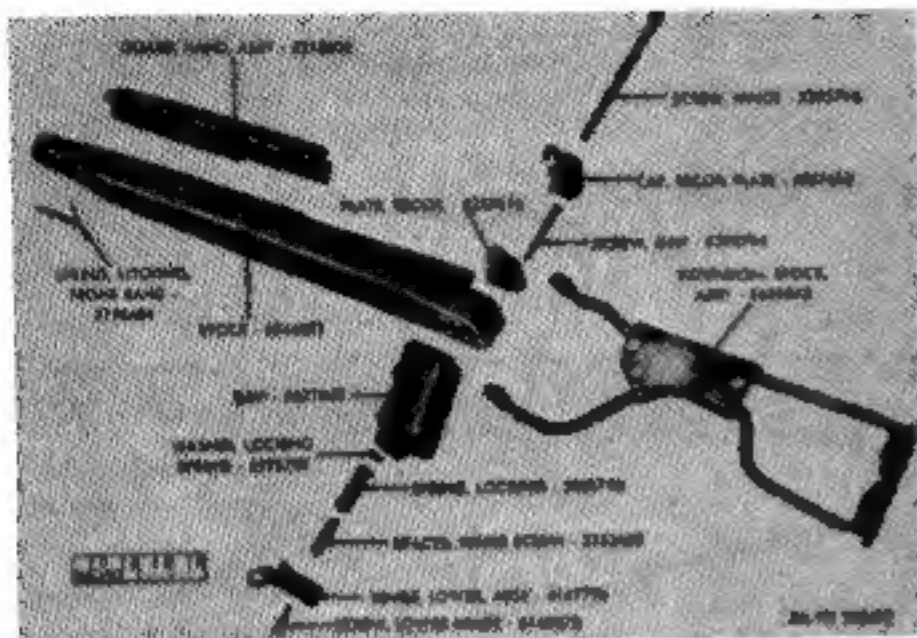

Figure 105. Stock assembly 6544072 and hand guard assembly 6212602 for carbine M1A1.
#### *a. Stock Extension (Fig. 105).*
m. Inspect cheek rest plate and retaining plate for deformation and looseness with each other on the bars when assembled. Inspect rivets for looseness and protrusion of heads. Inspect cheek rest cover for scoring and cracking of leather. Cheek rest plate should be held tightly to bars by retaining plate and rivets, and leather cover, on the stock extension assembly (Fig. 105), should be smooth, so it will not scrape face of operator.